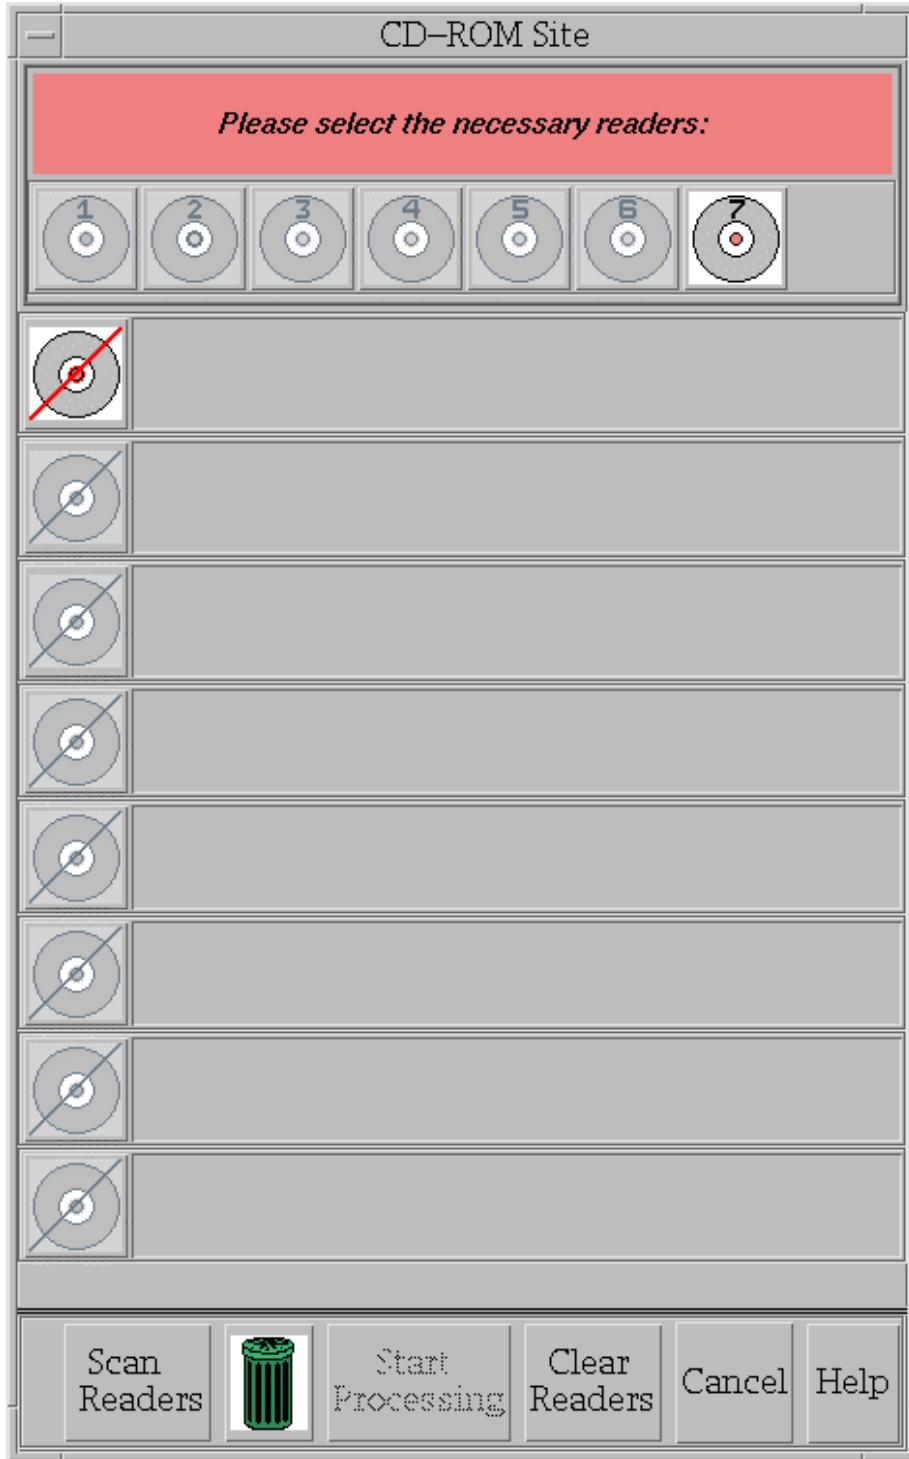

Fig. 41 – CD-ROM Site Window
- 4) **CDROM**: Use this option to make a duplicate copy of any CD. MMC will display a verification message (answer Yes to proceed), then the **CD-ROM Site Window** (Fig. 41). Load the CD to be copied into the CD-ROM drive, select reader 7, then click on the Start Processing button at the bottom of the **CD-ROM Site Window**. See Section 4.1 for more information on loading, selecting, and reading CDs. MMC will take the user through the necessary steps to Premaster the data.
**3.3.6.4.1 Process Scale** — Select Tools, Data Processing, Process Scale, and then choose the appropriate chart scale for data to be processed from the list of supported scales. The **CD-ROM Site Window** (Fig. 41) appears. Insert the CD with data to be processed into the CD-ROM drive, and select reader 7 (the only reader available). Click on Scan Readers, and then Start Processing.